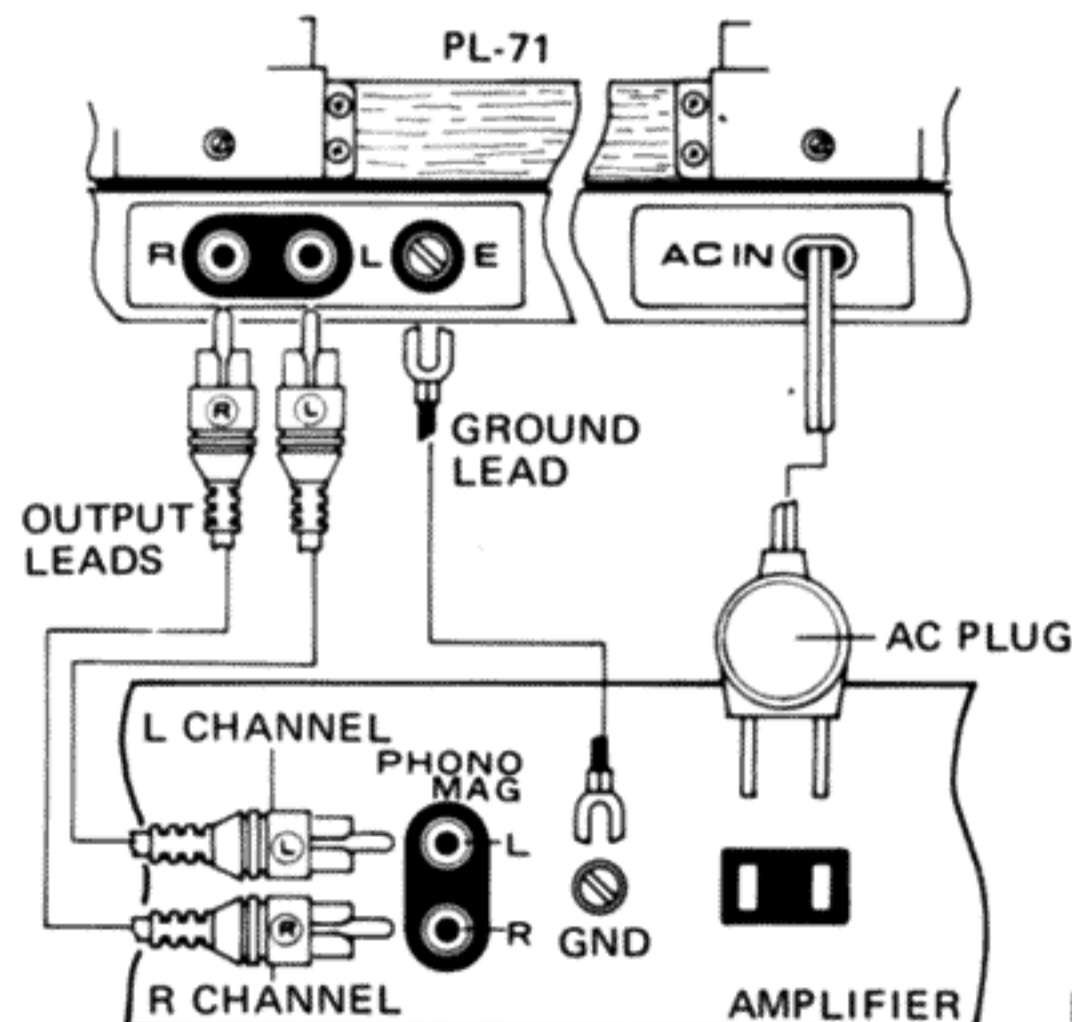

Fig. 18
1. The connection cords of the PL-71 are marked L and R; connect them to the stereo amplifier left and right PHONO MAG terminals (Fig. 18).